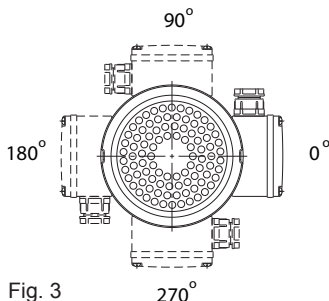

Fig. 3
- 5.6 The position of the motor connecting box is adjustable. Referring to Fig.3, the adjustment can be done by removing the motor fan cover, unscrewing the frame bolts, turning the motor casing and connecting box subassembly together to proper position. Finally, screw the frame bolts tight, and put the fan cover back.